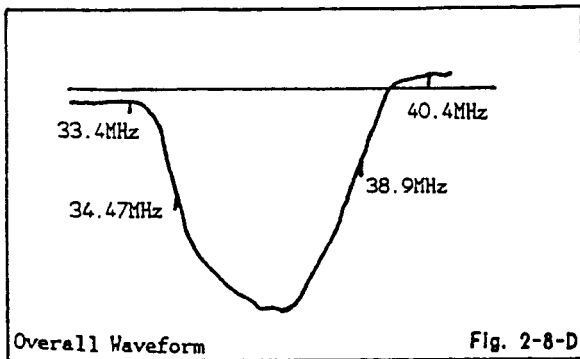

Fig. 2-8-D
3. Make sure that the output of waveform of pin 17 on IC6001 may become as shown in Fig. 2-8-D.